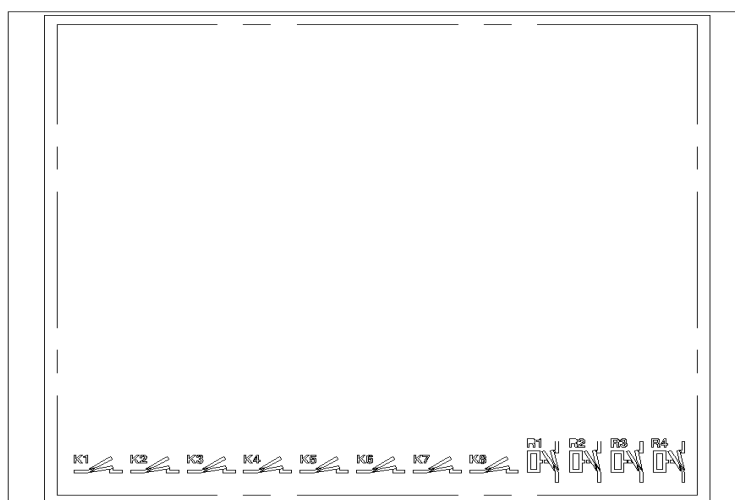

Fig. 98
- Press  $\leftarrow$  key 3 times till "PT SET" appears. Press  $\boxed{+}$  and  $\boxed{-}$  key to get the desired value. In this example, When 100 appears, save the value by pressing  $\leftarrow$ , and CT SET page appears. When CT ratio is set as 10, press  $\leftarrow$  to save the value and enter the next page.
- When the remote signal module A is installed, 8 channels remote signal status is shown on the meter as in Fig. 98.
- When the relay output module B is installed, the meter is displayed as shown in Fig. 98.